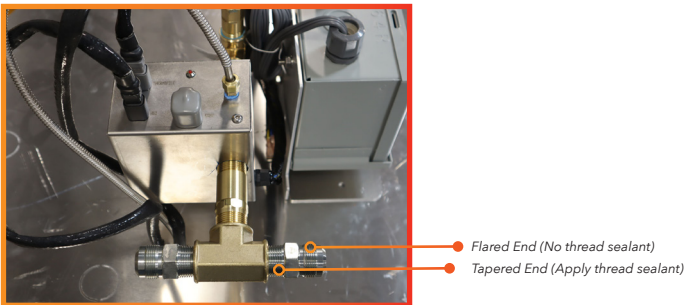
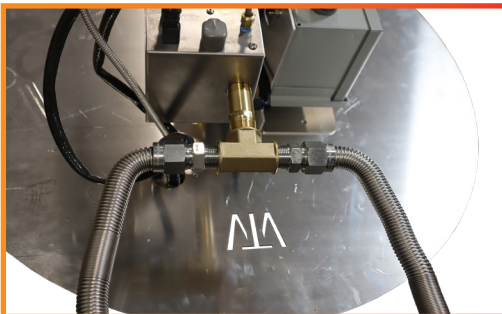

Figure 26: Connecting the Flared Fittings and 3/4" Tee to the 3" Nipple
Figure 27: Connecting the Flex Lines to the Flared Fittings
- 6.8 Your FK2 kit should have two flex lines. Each flex line comes with two flared fittings screwed onto the end. Remove these from the flex line. Identify the 3/4" tee that comes with your kit. Screw this onto the end of the 3/4" x 3" nipple attached to the valve. Then, screw the non-flared ends of two of the flared fittings into the tee. Use thread sealant on all connections and tighten all connections with a wrench to avoid leaks. **{See Figure 26} for complete installation.**
- 6.9 Take the ends of your two flex lines and screw them into the flared ends of the two flared fittings seen in Figure 26. Do not use thread sealant. Tighten with a wrench to avoid leaks. **{See Figure 27}**